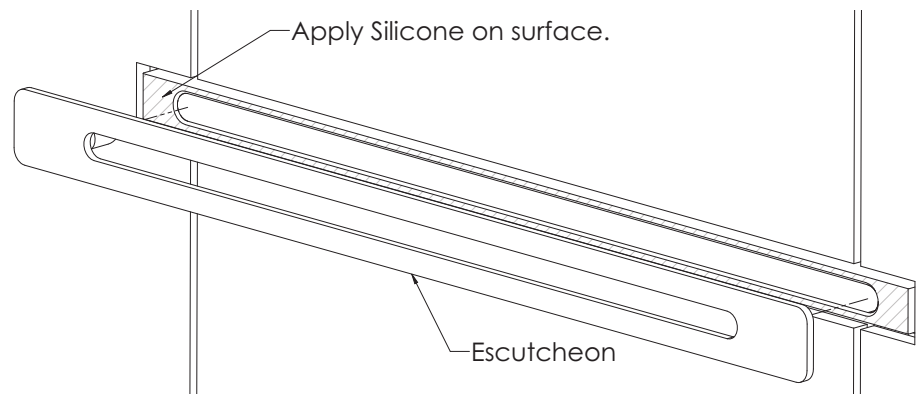

Figure 2
- Apply silicone to the front surface of Linear Steam Head. (see fig 2).